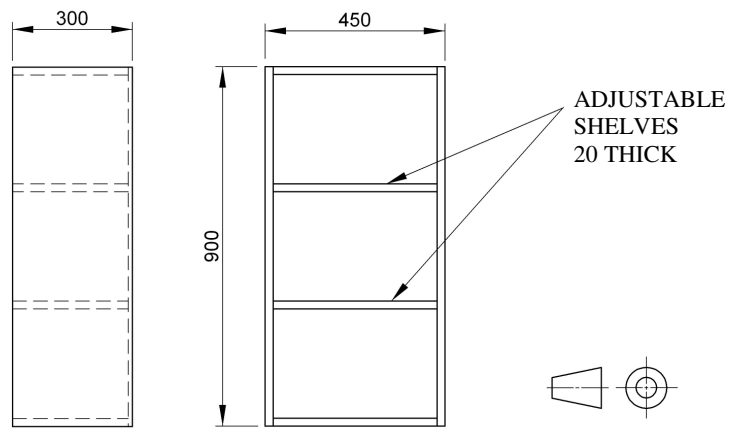

Figure 3(a)
3. Figure 3(a) shows two views of a wooden bookshelf.